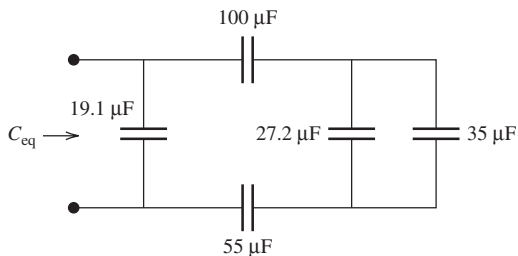

FIGURE P4.28 Circuit for Problem 4.28.
- 4.28 (A)* For the capacitor network in Figure P4.28, what is the equivalent capacitance, C_{eq} ?